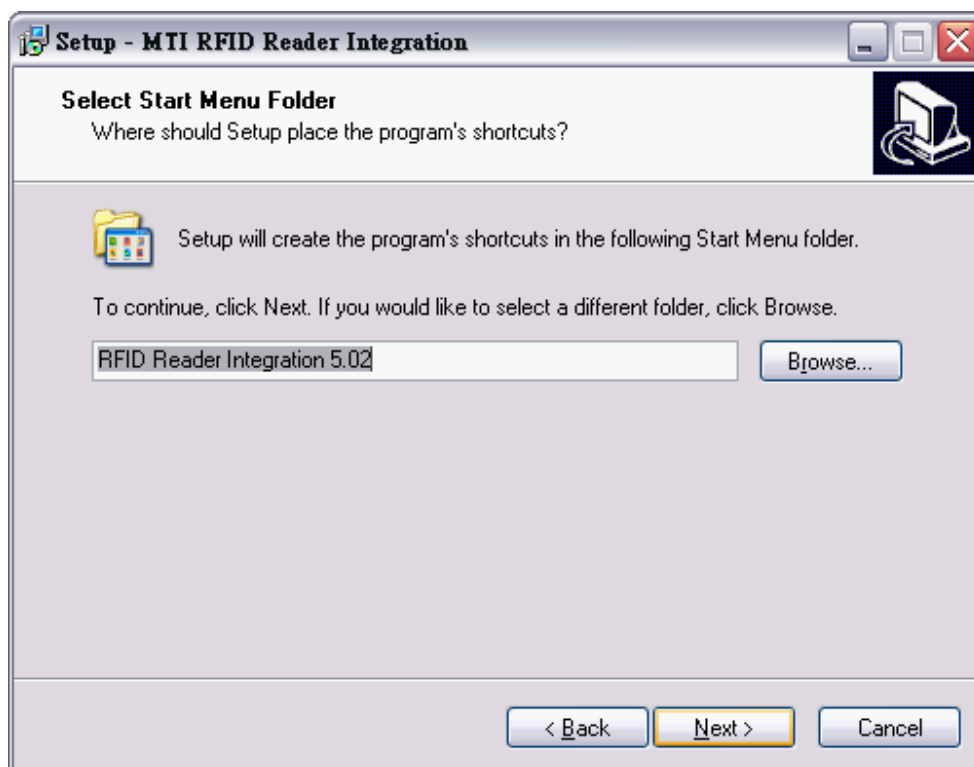

Fig. 4 Select start menu folder to install.
Step 3: Select start menu folder where the program's shortcuts will be placed, shown in Fig. 4